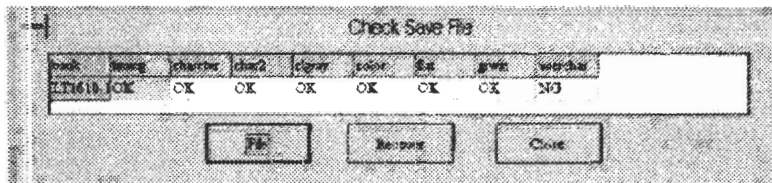

Figure 7-8
- (2) Click on the “File” button to select the file. Data that could not be read is marked with “NG” (Figure 7-8).
- (3) Data read is completed by clicking on the “Recover” button.
(When you perform operations (1) and (2) again, you see the data item marked with “NG” instead of “NG” in Figure 7-8.)
- * When you click on the “Recover” button, only the data items marked with “OK” in Figure 7-8 are read into the BANK. The contents of the one marked with ‘NG’ are deleted, and the appropriate area is initialized.